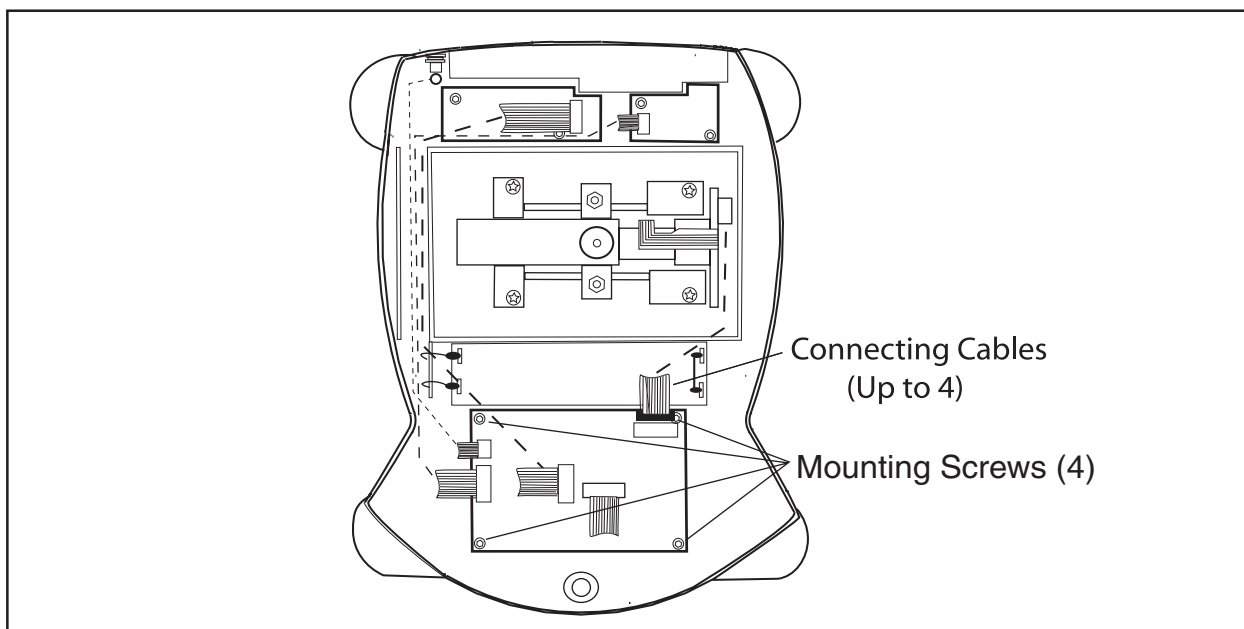

Figure 3-4. Removing Main PC Board.
2. Disconnect the cables from the Main Board assembly. See Figure 3-4.